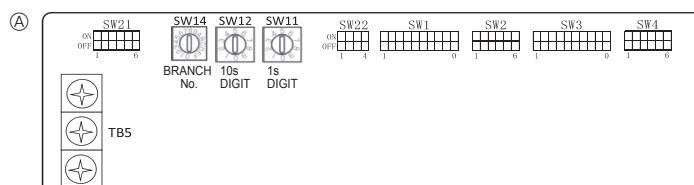

Fig. 5-9
5.6. Switch setting for high ceiling or at the time of changing the number of air outlets (Fig. 5-9)
- ③ Wireless remote controller (When installing wireless signal receiver)**
- (A) Terminal block for indoor transmission cable
- (B) Terminal block for outdoor transmission cable (M1(A), M2(B), (S))
- (C) Remote controller
- (D) Wireless signal receiver
- (E) Wireless remote controller
5.5. Setting addresses (Fig. 5-9)
5.7. Sensing room temperature with the built-in sensor in a remote controller (Fig. 5-9)